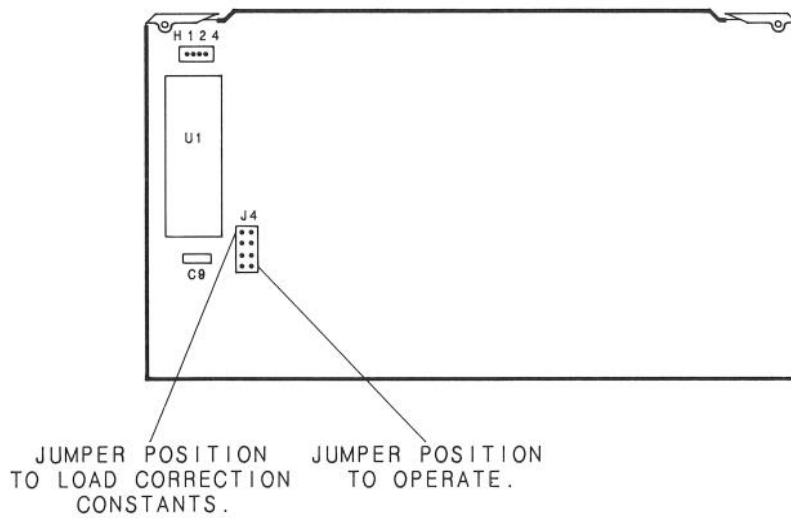

Figure 1. Correction Constant Jumper Location.
Figure 1 shows the lower (no-load) and upper (load) position of the jumper on the A9 CPU board. The message "Correction constants not stored" at the end of a correction constant routine means that the correction constant jumper was in the lower (no-load) position. Perform the following procedure to change the position of the jumper.
4. Pull the jumper off the pins in the lower position and push it on the upper position pins as shown in Figure 1 to enable the instrument to load correction constants.